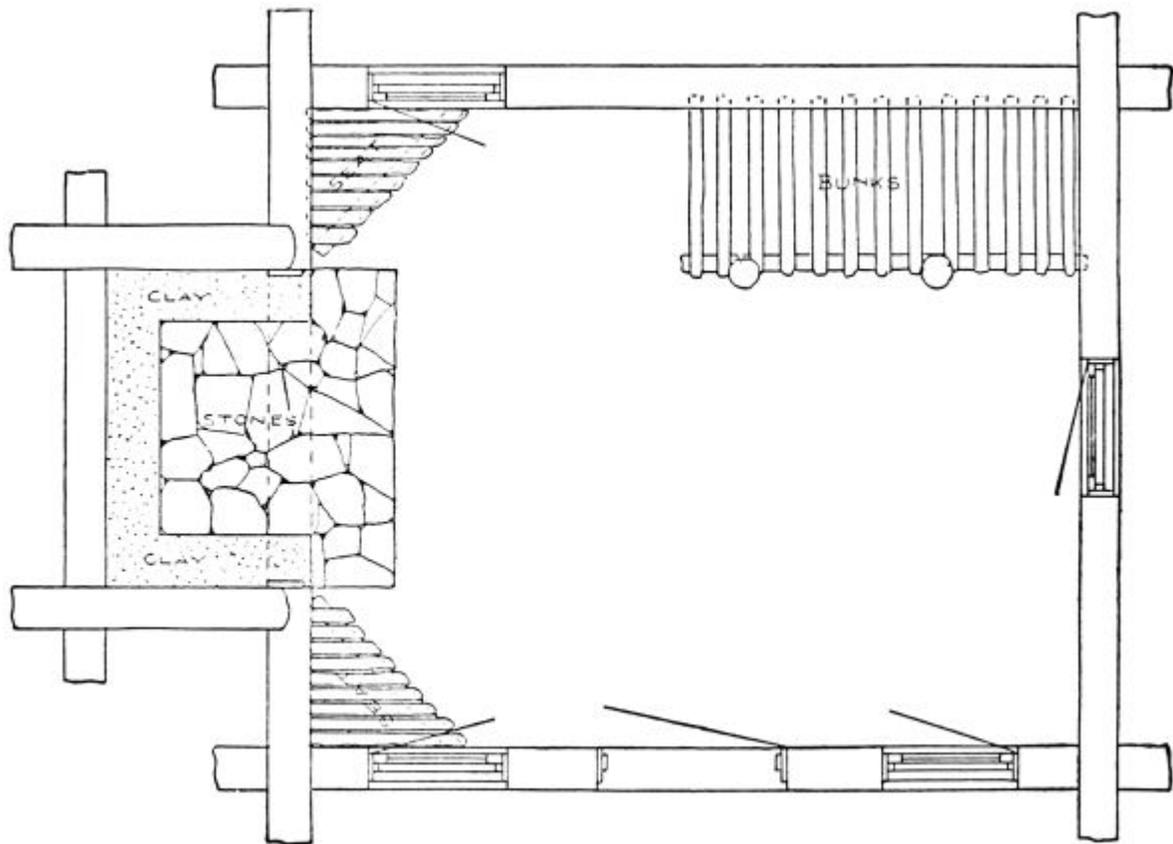
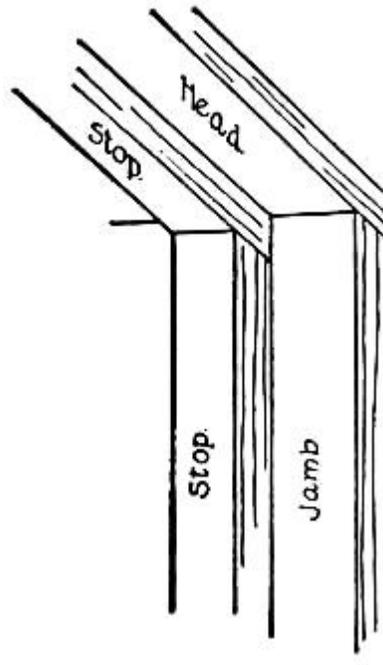

FIG. 190.—Plan for a Boy's Cabin.
FIG. 193.
**The Design and Size to build it**, which will be determined largely by the size and amount of timber you can procure. A plan for a cabin simple in construction is shown in Fig. 190, and while the details have been carefully worked out in this chapter for a cabin of this size, you will find it a simple matter to make such alterations as you wish. For the building of more pretentious cabins, the writer would refer his readers to "Log Cabins and Cottages" as the most practical book published upon this subject. In this volume its author, Mr. William S. Wicks, has not only written upon the construction and treatment of cabins, but also brought together a number of sketches showing a great variety of clever designs that have been built in different sections of the country. In carrying out the details of construction for the cabin described in this chapter, the writer has made use of a number of ideas from this book, through the courtesy of Mr. Wicks and his publishers.
While it is customary to lay up the walls of a cabin and then cut the door and window openings, you will find it a very much simpler matter to leave the spaces for them when laying up the logs, as it greatly decreases the number of long logs required to build the cabin. As the inside dimensions of the cabin shown in the plan of Fig. 190 are ten by twelve feet, the full-length logs—that is, those above and below the window and door openings—should be thirteen feet long for the ends of the cabin and fifteen feet for the front and rear walls.
**The Window Openings** and the head of the door opening should be cased with boards the width of the jambs. If you can secure sash for the windows, hinge them to the inside edges of the jambs as shown in Fig. 190, and nail a seven-eighths-inch window-stop around the jambs outside of them, to prevent the wind and rain from getting in around the sash (see Fig. 193). If sash cannot be obtained, wooden shutters made to fit the opening will do very well, as they can be used at night and whenever you wish to close up the cabin, and when you are within the cabin in the summer you will want the windows open.
**The Latch-string** is fastened to the latch at *F*, and run through a hole bored in the door above the top batten. To the outside end of the latch-string attach a weight of some kind to keep it from pulling through the hole (see Fig. 199). To lock the door from the inside, you will find a wooden button screwed to the door at *G* (Fig. 194) very good, as it prevents the latch from being lifted, when turned against it as shown in the illustration. As in the case of the windows, a seven-eighths-inch stop should be nailed to the door head and jambs outside of the door, for the door to swing against, and to keep out the rain and wind (see Fig. 193).